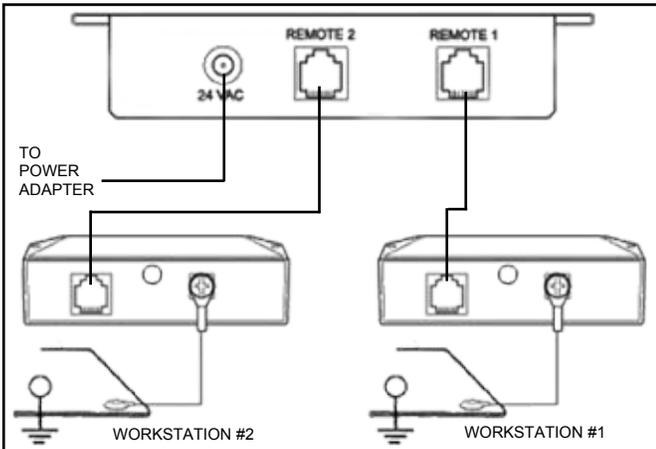

Figure 4. Wiring connection instructions for the 222740 monitor control unit.
Figure 4 shows the monitor control unit as it is viewed from the rear, with the work surface wiring in place.
1. Use the rear phone jack connections and connect the Satellite Remote Units to the base unit with the phone cables. See Figure 4 for wiring connection instructions.
4. Confirm that worksurface surface resistance is 1×10^7 ohms or less. Connect the ring terminal end of the worksurface cord included with the unit to the screw on the back of the satellite. Snap the other end to the worksurface grounding point as shown in Figures 4 and 5.